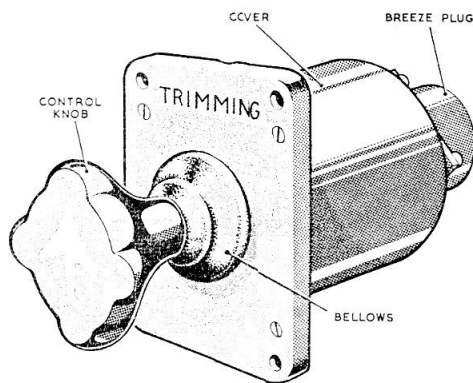

Fig. 1. Trim switch, Type TS231
1. The trim switch, Western, Type TS231, is illustrated in fig. 1, and is used for switching the aileron, elevator and rudder trimming actuators on and off. It is for use only with actuators that have a split series motor.